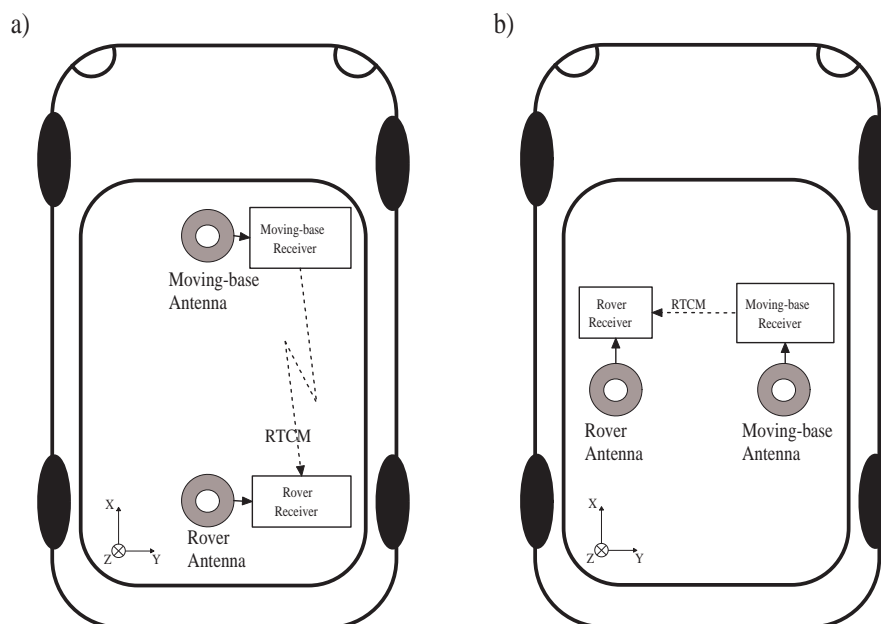

Figure 1-3: Moving-base attitude determination setup. a) default configuration. b) example of non-default configuration.
The heading and pitch of a vehicle can be derived from the orientation of the baseline between a base and a rover antenna when both antennas are attached to the vehicle. The base antenna is connected to a first receiver configured as RTK moving base station. The rover antenna is connected to a second receiver configured as RTK rover and accepting the RTCM stream from the first receiver. This is illustrated in Figure 1-3.
1. Attach two antennas to your vehicle. The default antenna configuration is as depicted in Figure 1-3 a). It consists in placing the antennas aligned with the longitudinal axis of the vehicle. If such configuration is not possible, you will have to provide additional information to the receiver, as explained below. For best accuracy, try to maximize the distance between the antennas, and avoid significant height difference between them.
is in front of the rover antenna (see Figure 1-3 a)). If you cannot place the antennas in such configuration, the reported attitude angles will be biased. There are two ways to remove these biases:
- (a) The biases can be removed by telling the receiver where the moving-base antenna is located in the vehicle reference frame (see appendix A). This is done by specifying the coordinates of the baseline between the rover antenna reference point (ARP) and the moving-base ARP in the X, Y and Z directions. For example, in the configuration b) of Figure 1-3, assuming that the distance between the antenna ARPs is 1 meter, you would issue (on the rover receiver):